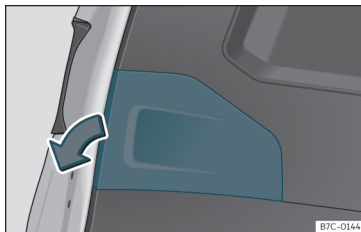

Fig. 93 Rear lid open: remove the lid.
- Remove the rear lid cover in the direction indicated »» Fig. 93.